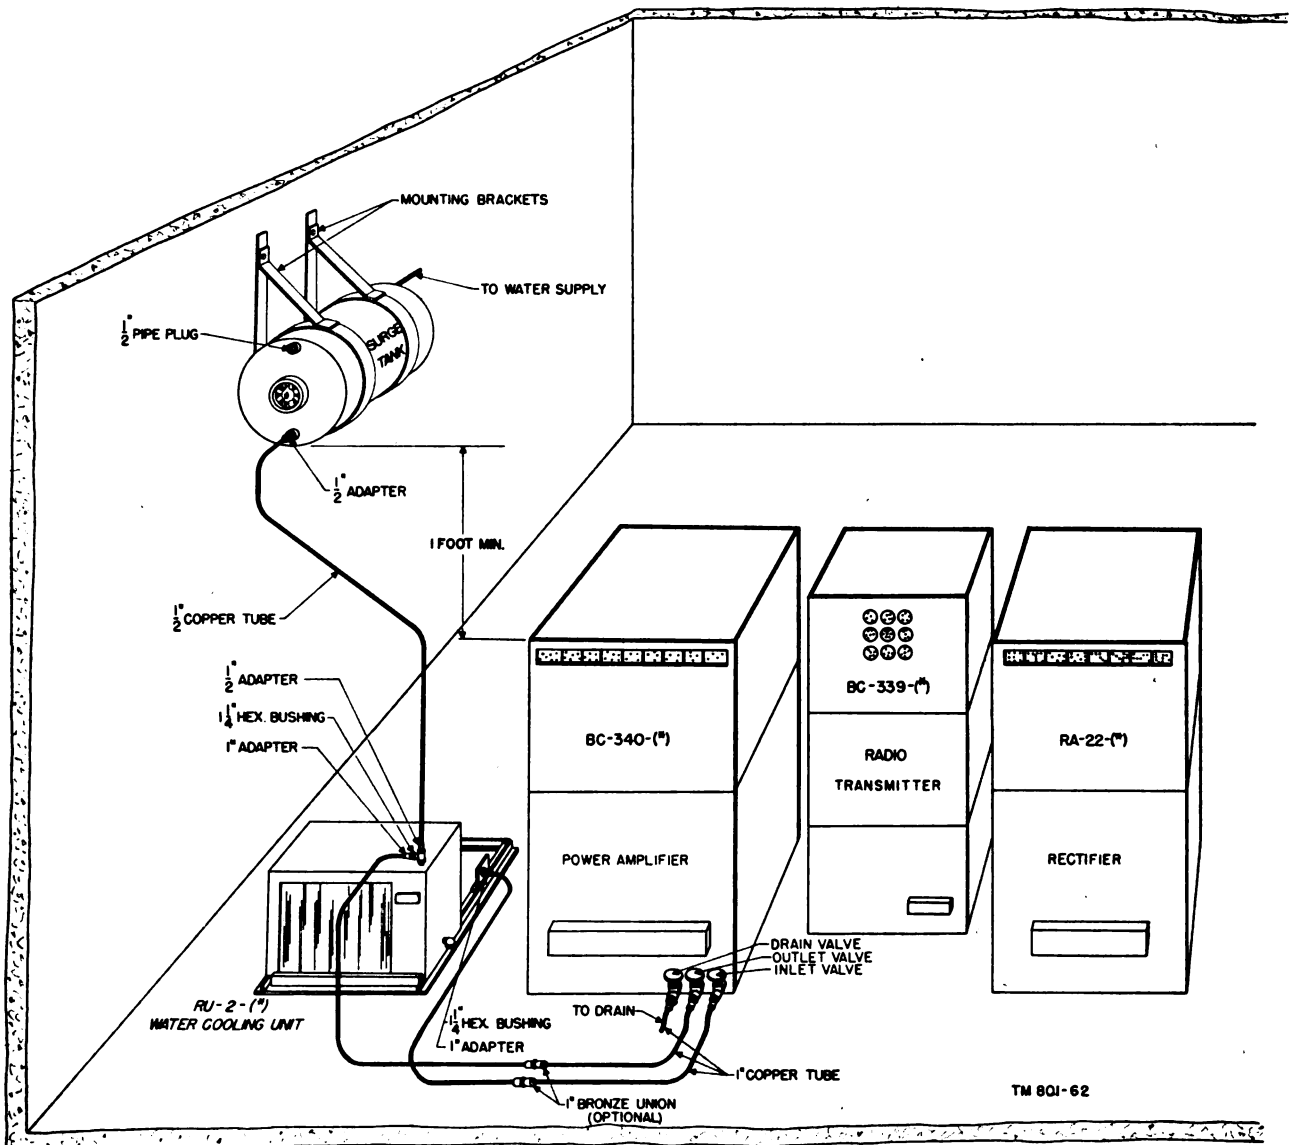

Figure 18. Plumbing installation diagram, all units in line.
a. POSITIONING EQUIPMENT. Wherever possible, the equipment should be arranged as indicated on the plumbing installation diagram (fig. 18). Some alternate arrangements are illustrated in figures 19 and 20. It is recommended that both wiring and plumbing be laid in ducts below floor level; but in
b. Cut and form a section of the ½-inch copper tubing supplied in the installation kit; this is to be placed between the surge tank and the water cooling unit (fig. 18). Make sure that the pipe extends suf-
f. Cut and form two sections of the 1-inch copper pipe supplied in the installation kit; this is to be placed between the water cooling unit and the power amplifier, as shown in figure 18, 19, or 20. The total length of pipe used between the water cooling unit and the power amplifier should be as short as possible. One hundred feet of 1-inch inside diameter tubing is supplied. In the event that more than 100 feet is required at any installation, a large size of pipe and fittings must be used throughout.